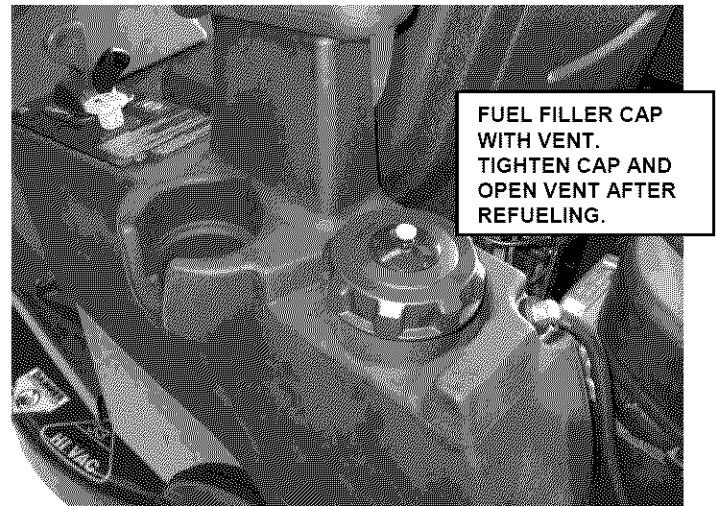

FIGURE 2.3
**2.1.6.** Add fuel to tank of the SCRAMBLER outside where fumes can safely dissipate. Refer to engine owner's manual for fuel specifications. Make sure fuel filler cap is tight and vent is open after refueling. See Figure 2.3. Open fuel valve located in fuel line.